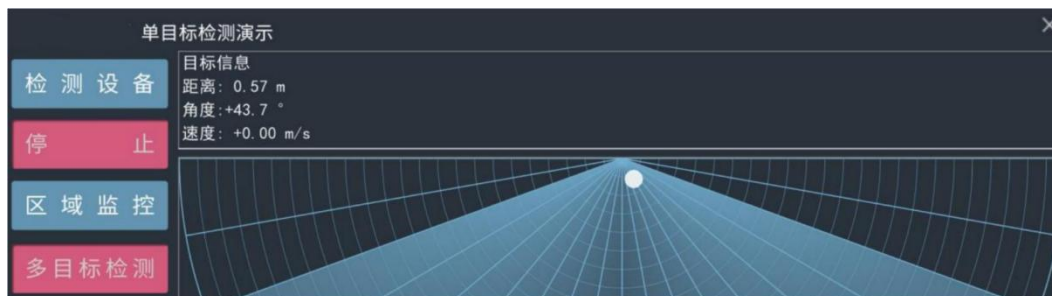

Figure 4-4 Single target detection demonstration example
Step 3: Click the "Start/Stop" switch button to display the target's position relative to the radar, as shown in Figure 4-4;